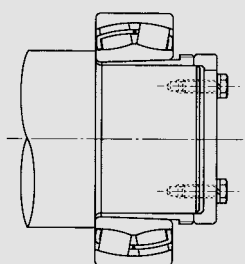
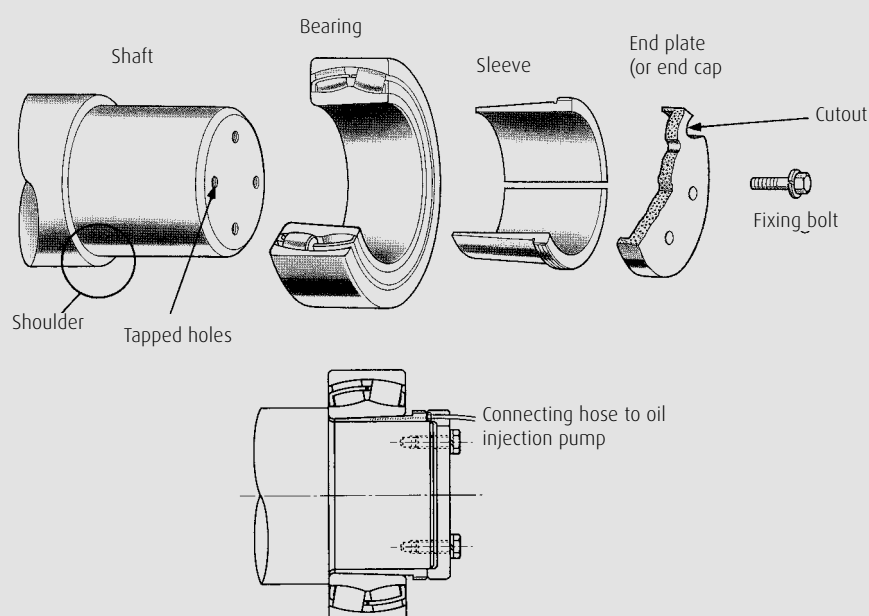

Fig. 6.19 Assembly view
Fig. 6.20 Oil injection method
c) Oil injection method (Fig. 6.19 and Fig. 6.20)